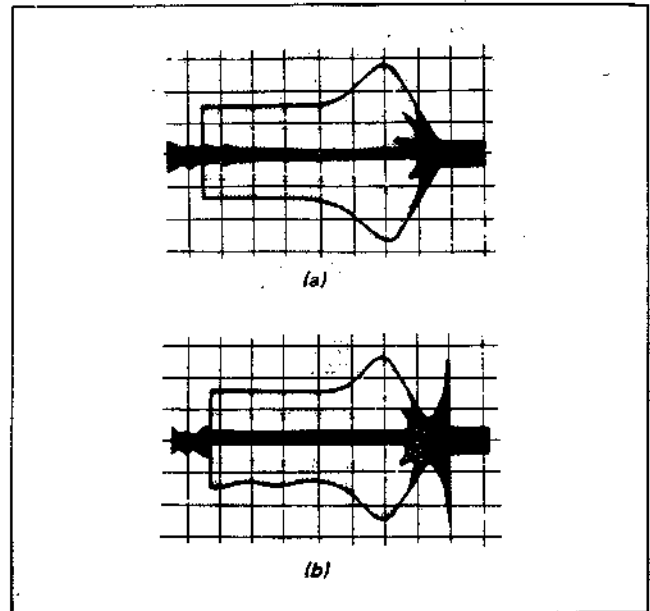

Fig. 4-8.
- 4) At this time, confirm that the exit free waveform is within the range shown in Fig 4-8(a) and (b).